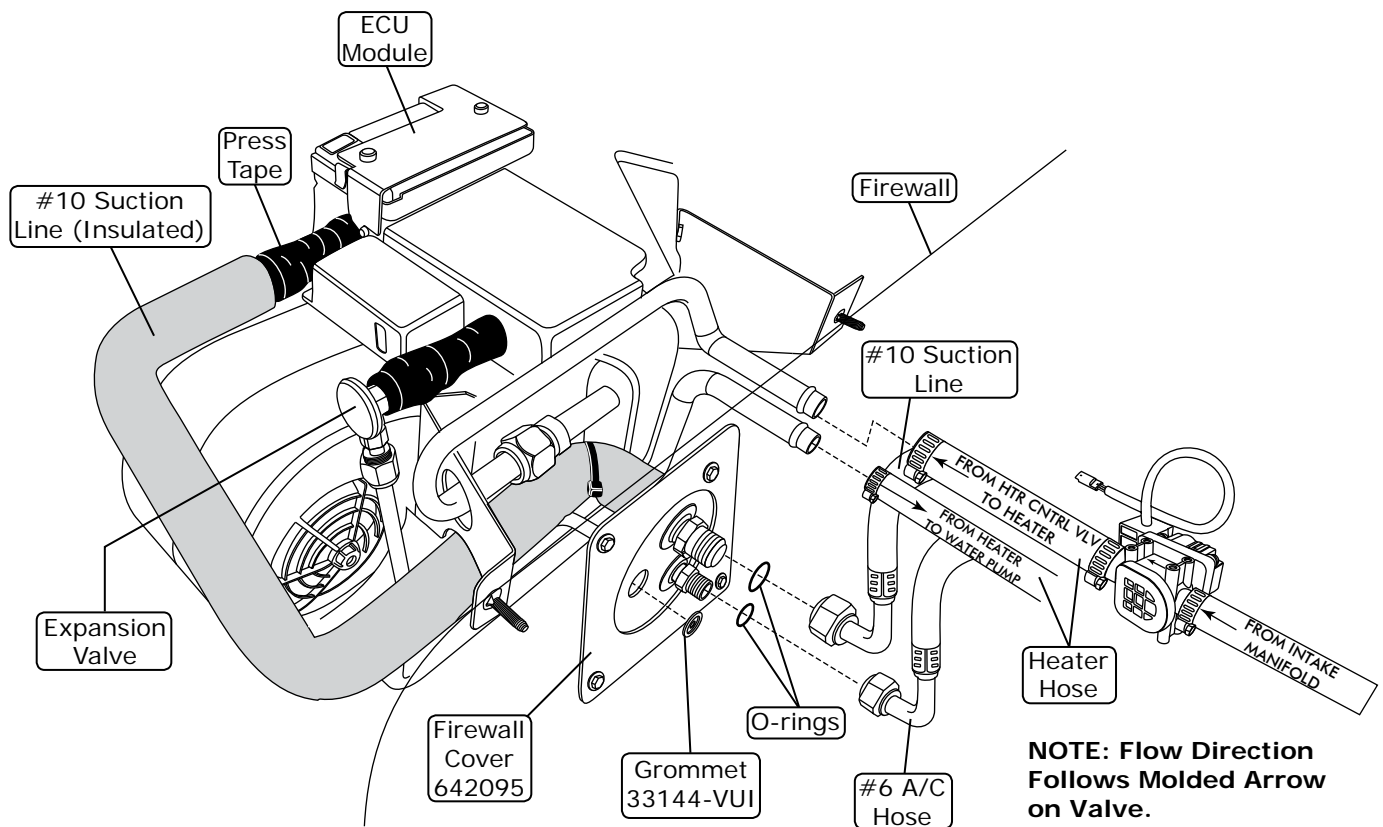

Figure 12
1. Locate the #6 evaporator/drier A/C hose. Lubricate (2) #6 O-rings and connect the 45° female fitting to the drier mounted on the inner fender. The angle is toward the engine (See Photo 3, Page 15). Then route the 90° female fitting to the #6 evaporator hardline coming through the firewall (See Figure 12, Page 14). Route the hose under the fender braces and upper firewall (See Photo 4, Page 15). Tighten each fitting connection as shown in Figure 11, above.
2. Locate the #10 compressor A/C hose. Lubricate (2) #10 O-rings and connect the 90° female fitting with 134a service port to the #10 suction port on the compressor (See Photo 3, Page 15). Then route the 90° female fitting to the #10 evaporator hardline coming through the firewall (See Figure 12, Page 14). Tighten each fitting connection as shown in Figure 11, above. Use (6) tie wraps to secure the #6 and #10 A/C hoses to the fender braces as shown in Photo 4, Page 15.
1. Route a piece of heater hose from the water pump to the lower heater hardline on the firewall as shown in Figure 12, below. Push the end of the hose through the hole in the firewall. Secure both ends with hose clamps, and apply a bead of silicone around the heater hose where it passes through the firewall.
2. Route a piece of heater hose from the intake manifold to the upper heater hardline on the firewall as shown in Figure 12, below. Push the end of the hose through the hole in the firewall. Secure both ends with hose clamps.
3. Install the heater control valve into the upper heater hose (pressure side, from intake manifold) as shown in Figure 12, below. Secure using hose clamps. Apply a bead of silicone around the heater hose where it passes through the firewall. **NOTE: Ensure proper flow direction through the valve (the flow direction follows the molded arrow on the valve).**
4. Squeeze the 3/8" wiring grommet into an oval, and feed the heater control valve wiring connector through it. Install the grommet into the firewall as shown in Figure 12, below.